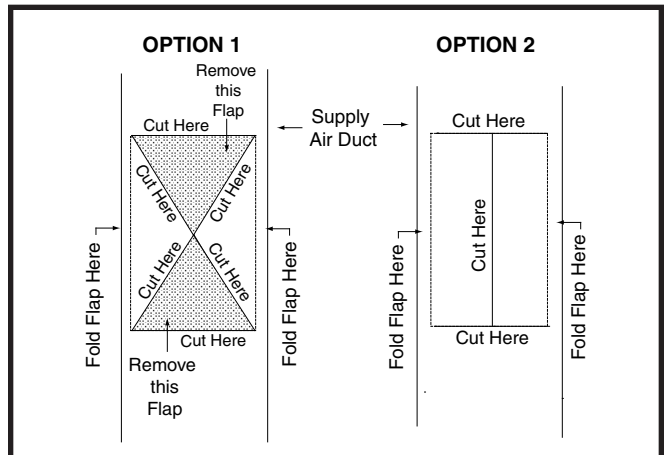

Figure 11. Narrow Air Duct Openings
1. Score and cut the top of the supply air duct as indicated in Option 1 or Option 2. See Figure 11 \(page 8\).